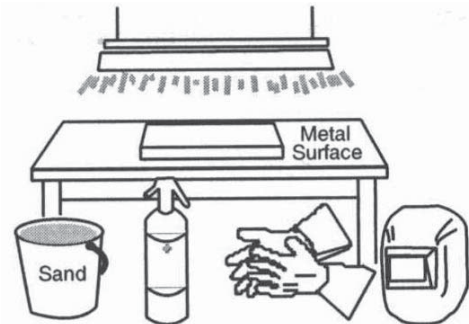

Figure 5. Work Area
- Prepare an organized, well lit work area (see Figure 5).